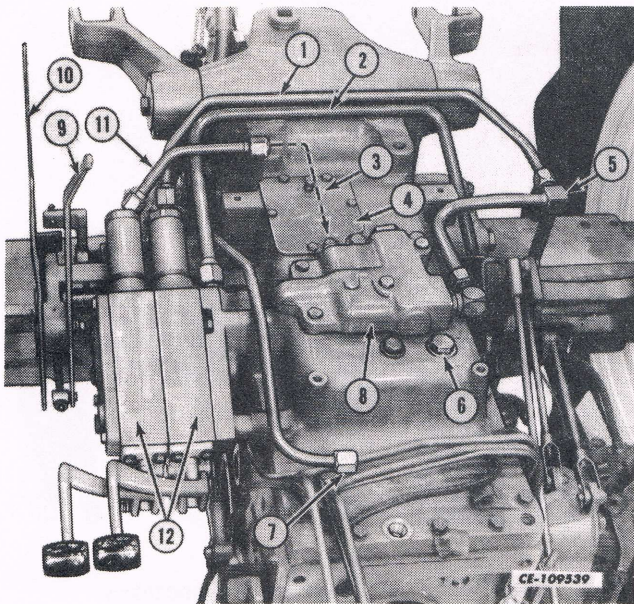
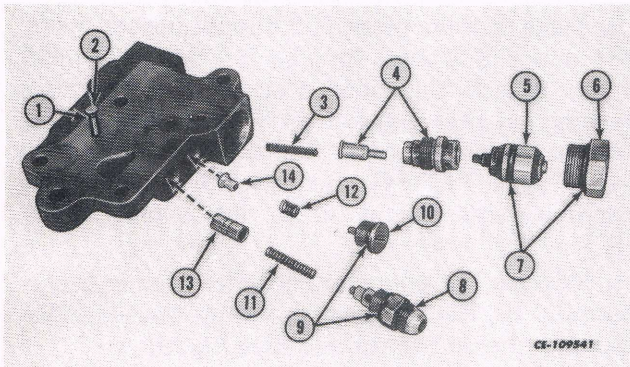

Fig. 7
Fig. 9
11. Remove the unloading and flow control valve assembly (8, Fig. 7) from the hitch housing. Disassemble the unit as follows (See Fig. 9):
a. Remove the unloading valve plug (6).
b. Pull the unloading valve piston assembly (5) out.
c. Using a tie rod socket wrench, remove the unloading valve body assembly (4) with spring (3).
d. Remove the check valve plug (10), spring (12) and check poppet valve (14).